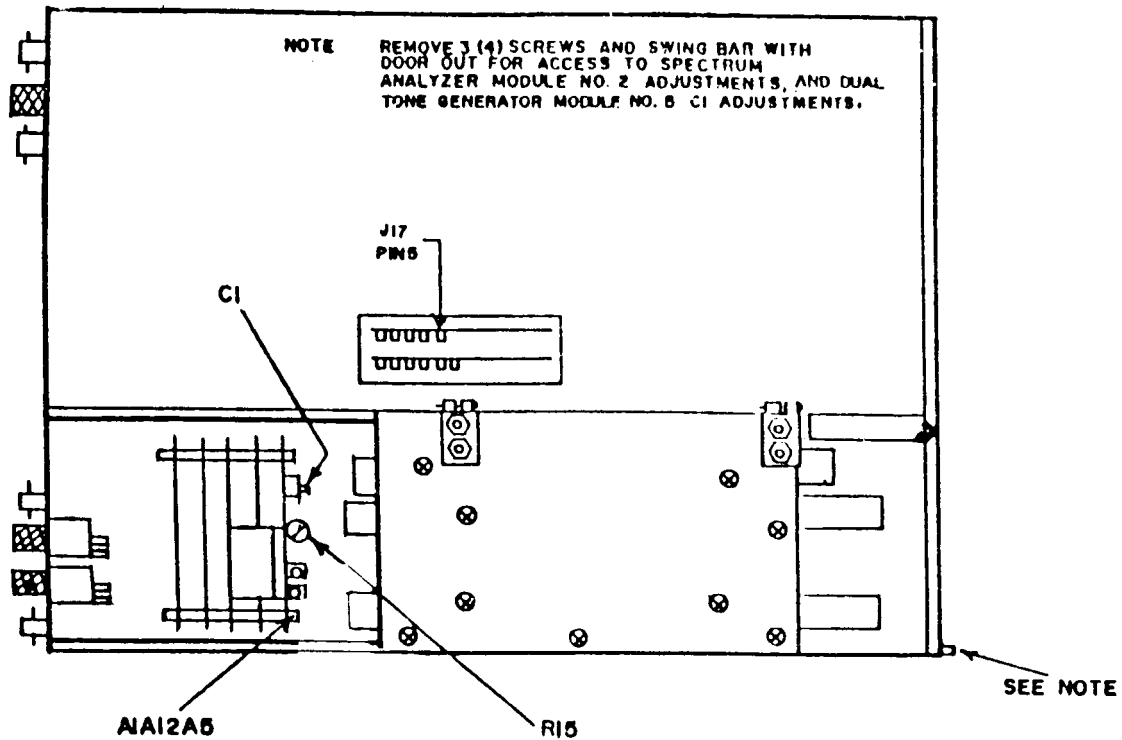

Figure 2. Test instrument - bottom view.
- (1) Adjust A1A12A5C1 (fig. 2) until frequency counter indicates 1000 Hz  $\pm$ 0.1 Hz(R).
- (2) Adjust A1A2A5R15 (fig. 2) until frequency counter indicates 1000 Hz (R).